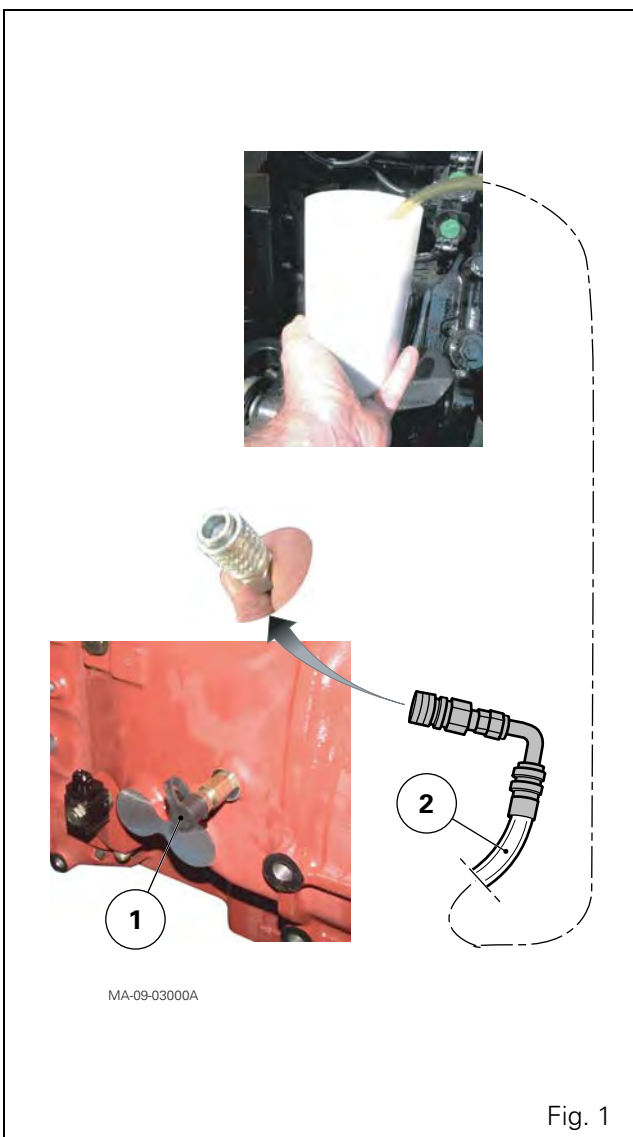

Fig. 1
4. Rig up a makeshift transparent hose (2) with a Parker PD242 connection ref. 3582045M1 on one end (available in the Massey Ferguson network), and the other end inside in a container (Fig. 1).
5. Connect the hose on the clutch bleed nipple (1) located on the right-hand side at the front of the gearbox (Fig. 1).